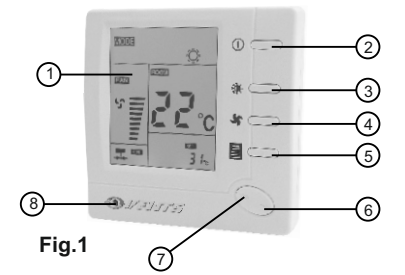
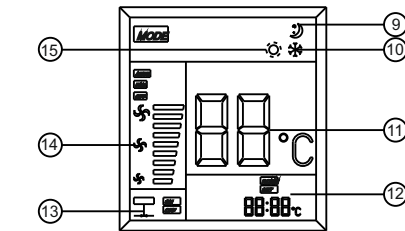

Fig.1
Fig.2
- Front panel (Fig.1)
- Display (Fig.2)
Press fan speed selection button. On the display, one of the characters (14 in Fig.2) will appear or AUTO. This means that fan will rotate at HI (high), MED (medium), or LOW (low) speed or in AUTO (automatic mode). If AUTO mode is selected, fan rotation speed will change, depending on difference between actual temperature in premise and set temperature. If temperature in the premise is by more than 3 degrees higher than set temperature during cooling and by more than 3 degrees lower than set temperature during heating, fan will operate at the highest speed. If temperature in the premise is by 2 3 degrees higher than set temperature during cooling and by 2 3 degrees lower than set temperature during heating, fan will operate at medium speed. If temperature in the premise is by 0 1 degrees higher than set temperature during cooling and by 0 2 degrees lower than set temperature during heating, fan will operate at low speed.
Using mode selection button, select heating mode (15 in Fig.2).
Using mode selection button, select cooling mode (10 in Fig.2).
Press "night" mode selection button (5 in Fig.1). Symbol of "night" mode (9 in Fig.2) will appear. This mode will active during 8 hours, at that, heat regulator will control heating or cooling according to the chart (see below). Press "night" mode selection button once more, appropriate symbol will disappear; this means cancellation of "night" mode operation.
Switch off heat regulator, pressing "power" button, then press and hold "night" mode selection button (5, Fig.1) at least 4 seconds until the display switches on. This means that you have entered the first menu option of setting mode. There are 4 menu options, that is represented on the display. Selection of appropriate menu option is made by pressing (5) button. In each menu option, press "+" or "-" button to change settings. To quit the menu and return to normal operation mode, switch off heat regulator, pressing "power" button and, then, switch it on again.